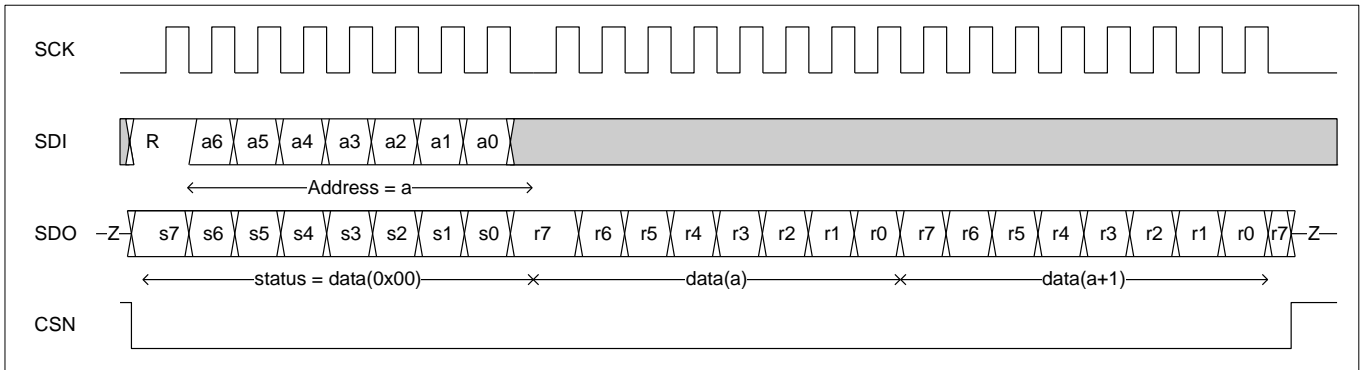

Figure 6: Multi-read SPI transaction
- Read one or more consecutive register(s) and the status byte (register 0x00). See Figure 6 below. This action requires at least two bytes: one byte for address and read order, and at least one byte for reading the desired address.